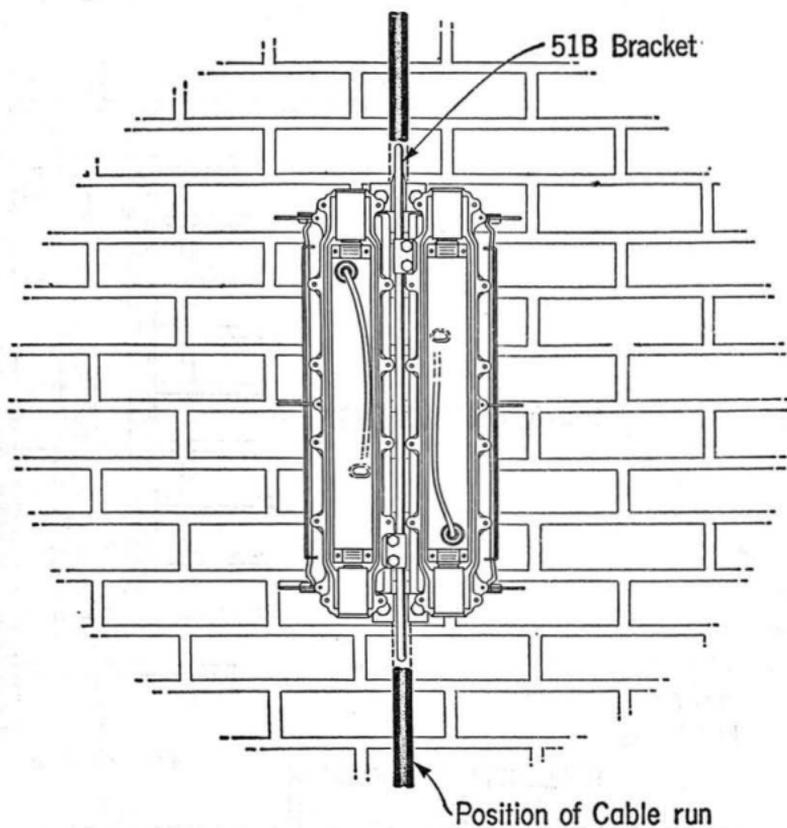

Fig. 12
(3) A second 61-type terminal, if required (see 4.02), can also be mounted on the bracket leaving sufficient space between the two housings for the splicing work. See Fig. 12.